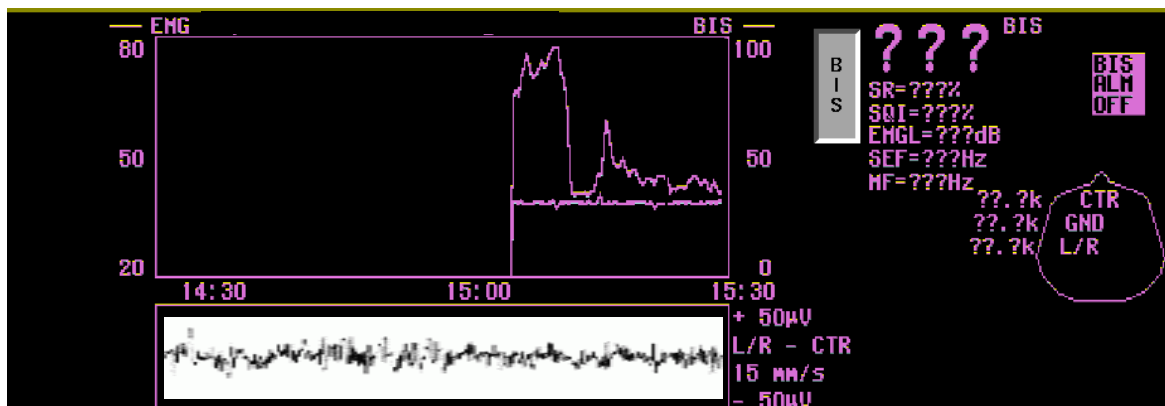

Figure 23-13: Three-zone display
- Touch 3 ZONE to display the full bedside view format (*Figure 23-13*).